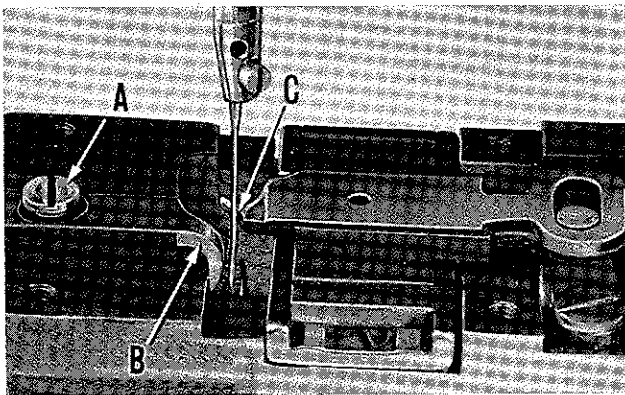

Fig. 8
NOTE: Fig. 8 shows the machine with needle plate, feed plate, and button clamp removed. This has been done for clarity only. These parts need not be removed to make the adjustments.
Loosen needle guard clamp screw (A, Fig. 8) and slide needle guard (B) forward. Insert a screw driver behind the loop positioning finger (C) and pull the finger forward. There should be only the slightest amount of clearance between the finger and needle, approximately .002 inch.
Rotate the pulley in operating direction until the lower timing line on the needle bar is even with the lower edge of the needle bar bushing. Rotate the sleeve (B) so that the point of the hook is at the center of the needle on the back side and tighten both screws (A) in the sleeve. Loosen hook collar clamp screw (E), and slide hook (G) so that there is the smallest amount of clearance between its point and the needle, and retighten hook clamp screw. Loosen set screw (C) in cam (D), and rotate cam so that its timing line coincides with the timing line on the sleeve (F). Tighten screws in cam, making sure that the cam is against the sleeve. Turn the pulley in operating direction until the needle bar is at its lowest position, and slide the needle guard (B, Fig. 8) in the direction of the needle until there is a clearance of about .002 inch between it and the needle. Retighten clamp screw (A) securely.